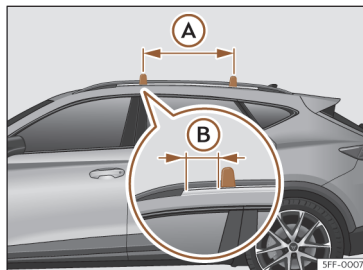

Fig. 197 Attachment points for the crossbars for the roof carrier.
The crossbars are assembled on the roof railings. The distance between crossbars >>> Fig. 197 (A) should be between 70 and 90 cm and the distance between the crossbars and the brackets of the roof railings (B) must be 9 cm.